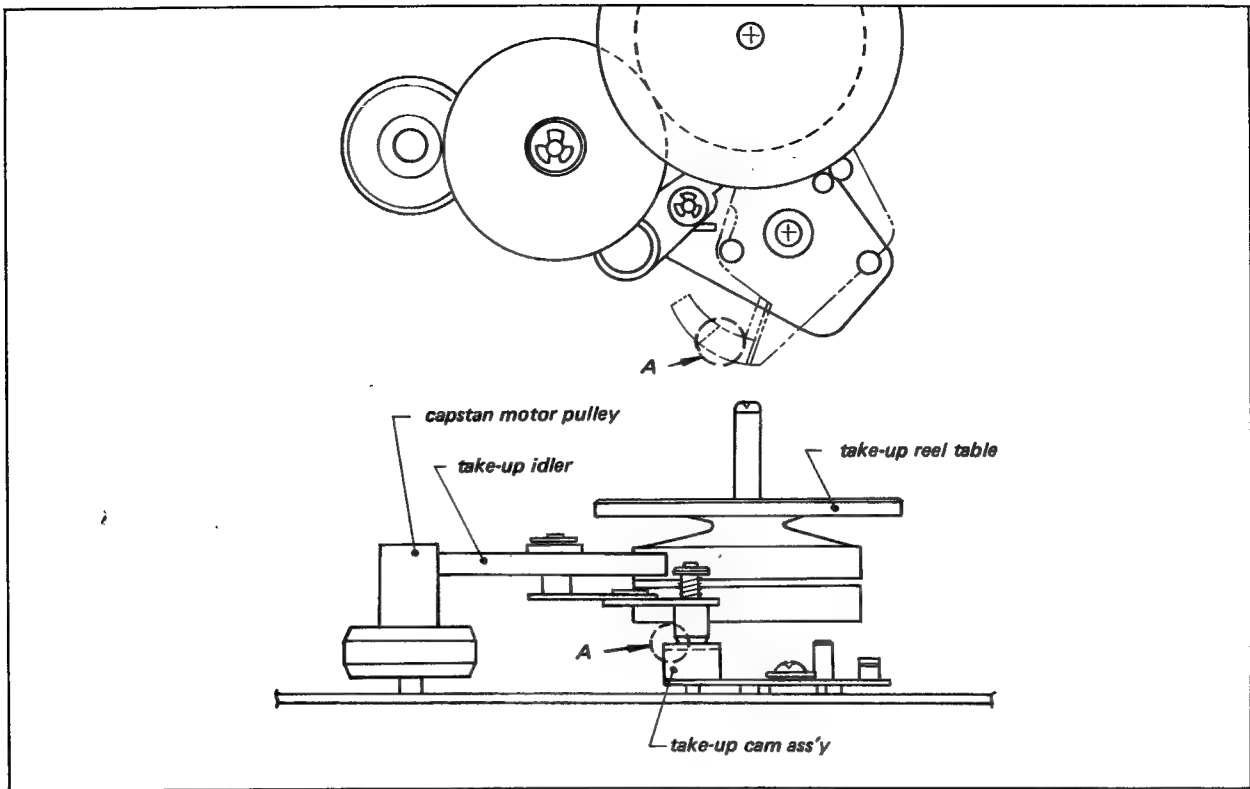

Fig. 4-12. Take-up idler height
2. If this condition does not exist, place the Function Lever in the FORWARD position. Bend Finger A with a pair of pliers as shown in Fig. 4-12, to obtain the correct Take-up Idler height.